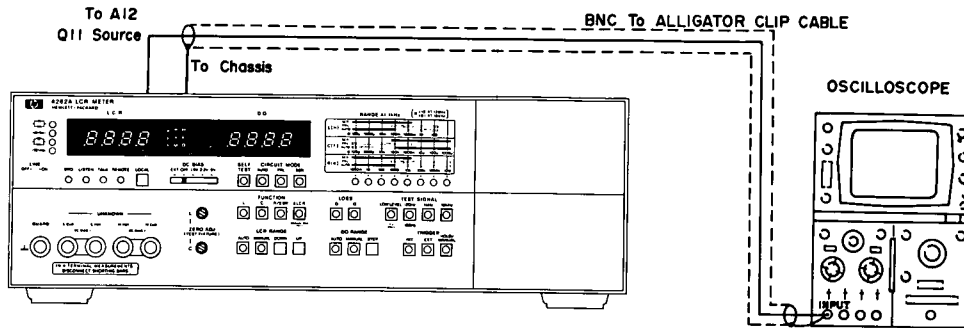

Figure 5-3. A12 Board Offset Adjustment.
- a. Connect BNC to dual alligator clip cable between oscilloscope and transistor A12Q11* source on the A12 Range Resistor Board Assembly (See Figure 5-3).